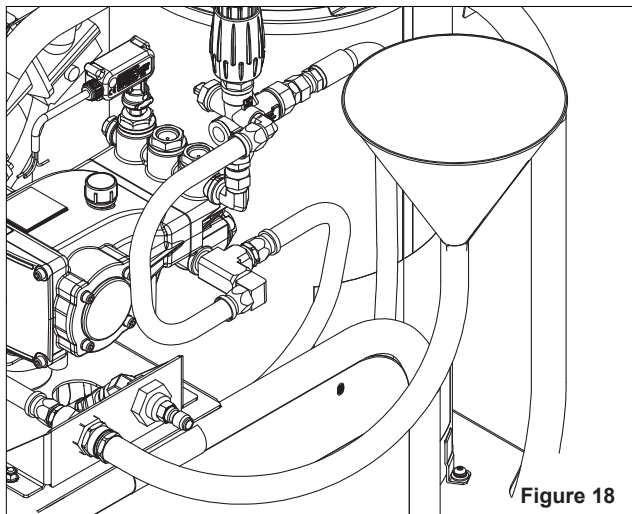

Figure 18
2. Attach a short length of hose (approximately 3 feet long) to the inlet water connector and install a funnel in the other end of the hose as shown in the figure 18.